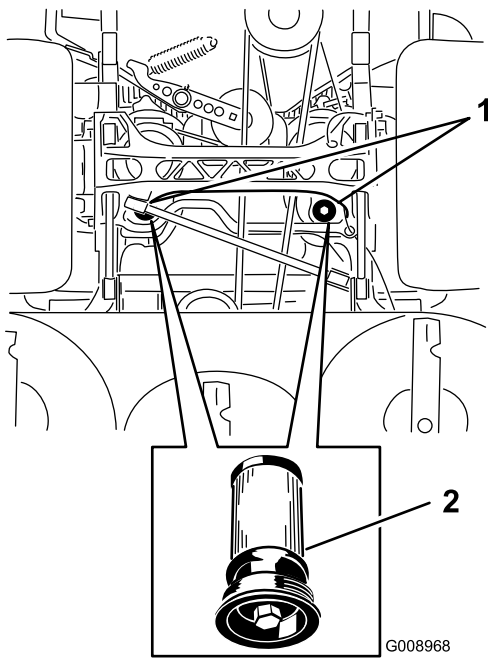

Figure 81
5. Place a drain pan under the filter, remove the old filter and wipe the surface clean (Figure 81).
6. Apply a thin coat of hydraulic oil to the rubber gasket on the replacement filter (Figure 81).